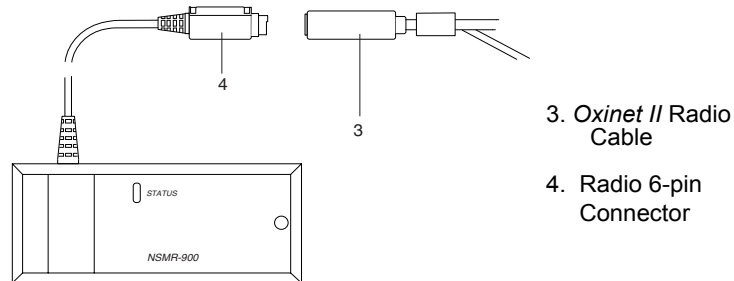

Figure 29: Radio Cable Connection
3. Connect *Oxinet II* radio cable 6-pin connector (Figure 29, item 3) to radio 6-pin connector (item 4).